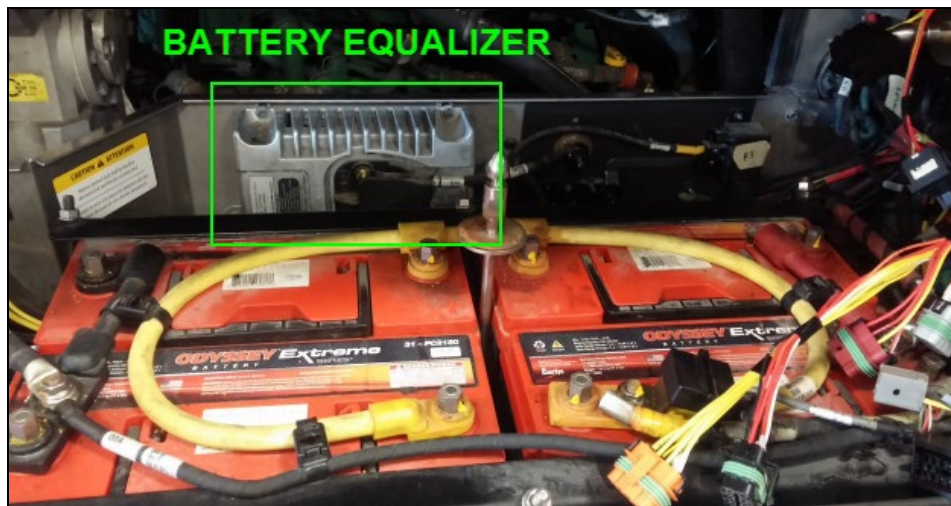

Fig.1 Battery Equalizer location
1. Access the battery equalizer located in the vehicle battery box (rear engine compartment Fig.1 and Fig.2 below).